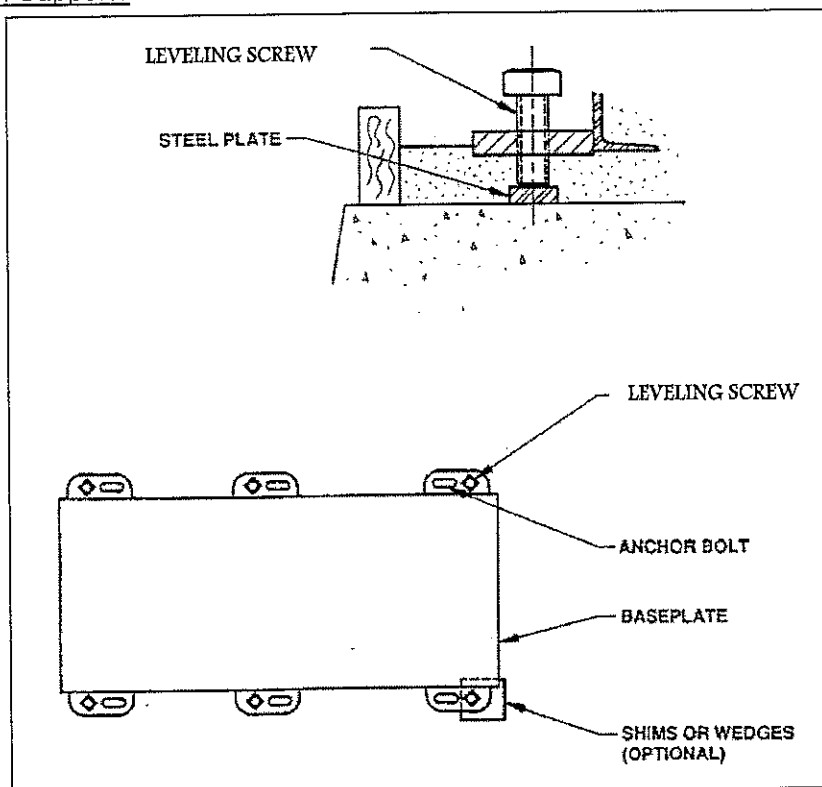

Figure 2
3. Place the unit on the foundation with the coupling halves disconnected. The coupling should not be reconnected until the alignment operations have been completed. Follow the proper alignment procedure for your equipment after leveling. The baseplate should be supported on rectangular metal blocks and shims or on metal wedges having a small taper. These support pieces should be placed close to the foundation bolts (Figure 2). Adjust the metal supports or wedges until pump and driver shafts are level. Check the coupling faces and the suction and discharge flanges of the pump for vertical / horizontal position with a level. Correct the positions if necessary by adjusting the supports under the baseplate as required (see section on Field Installation of Motor and Coupling Alignment).